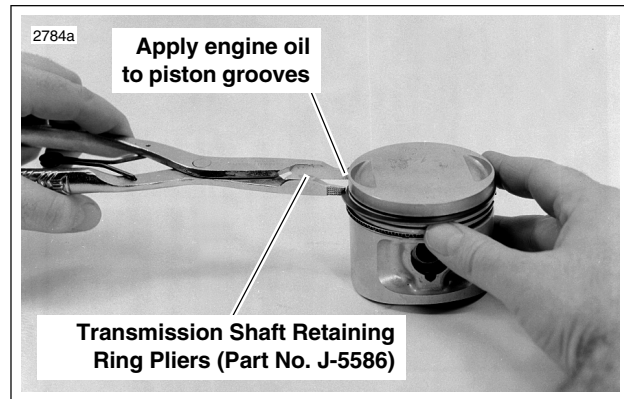

**Figure 3-34. Measuring Ring End Gap**
1. See Figure 3-34. Place piston in cylinder about 1/2 in. (12.7 mm) from top. Set ring to be checked squarely against piston as shown. Check end gap with thickness gauge. See 3.1 SPECIFICATIONS for tolerance.